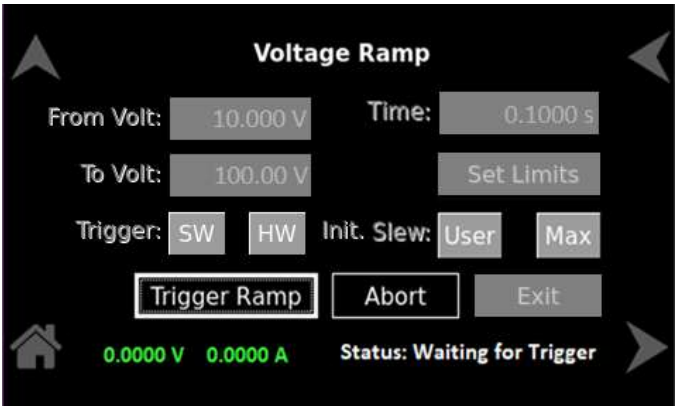

Figure 8-61. Status – Waiting for Trigger
- c) **Waiting for Trigger:** When the system is waiting for the trigger, refer to Figure 8-61.